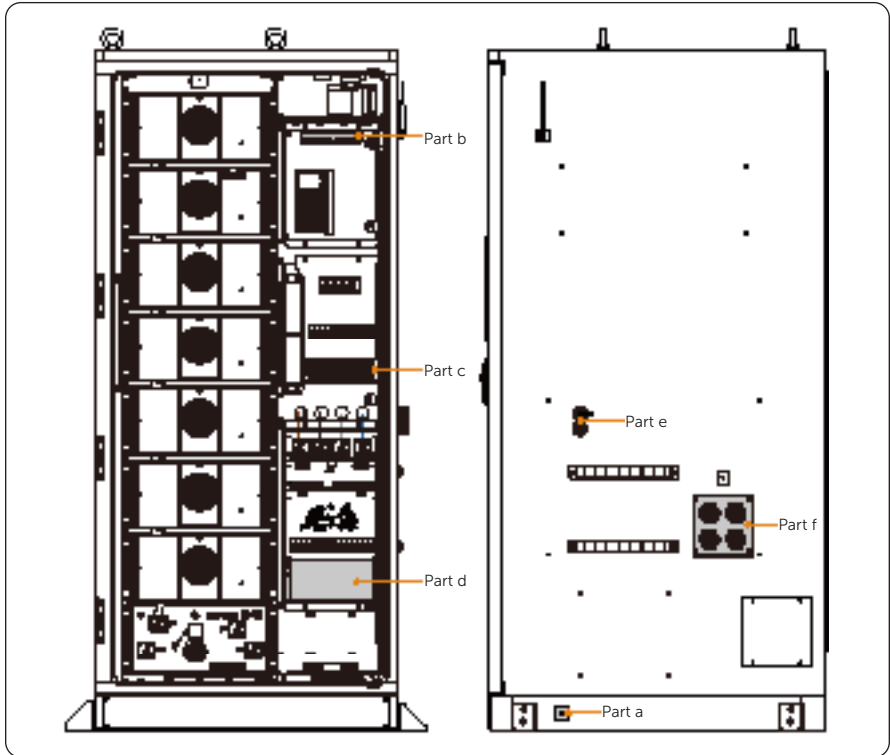

Figure 7-1 Parts that need wiring
- Before wiring, operators are required to learn which parts need to be conducted wiring. For details, please refer to Figure 7-1.
Regarding the PE connection, namely **Part a** in "Figure 7-1 Parts that need wiring", please strictly follow the steps below.
Regarding the EPS connection, namely **Part c** in "Figure 7-1 Parts that need wiring", please strictly follow the steps below.
Regarding the grid connection, namely **Part d** in “Figure 7-1 Parts that need wiring”, please strictly follow the steps below.